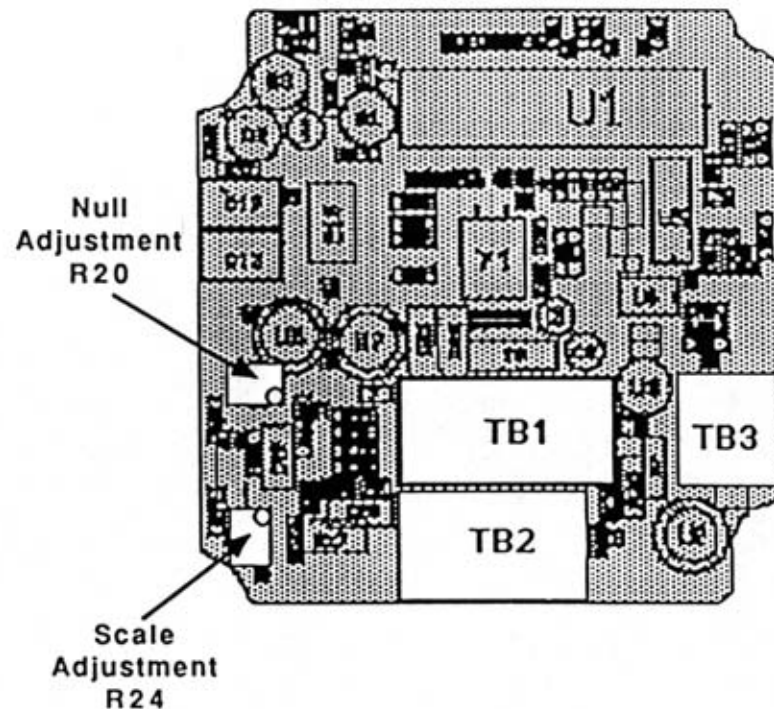

Figure 2-1. Location of Position Adjustments and Terminal Boards on the AOM.
Figure 2-1 shows the location of position adjustments and terminal boards on the AOM.
The following procedures calibrate the null position and the full-scale position to the required output levels. If the following adjustments are inadequate, refer to Subsection 3.2 for possible mechanical adjustments. Refer to Figure 2-1 for the adjustment locations.
2. Note the location of terminal board TB1 on the AOM (Refer to Figure 2-1). Connect a DVM (digital voltmeter) across pins A and B of terminal board TB1 to monitor the displacement signal. Apply power to the system.